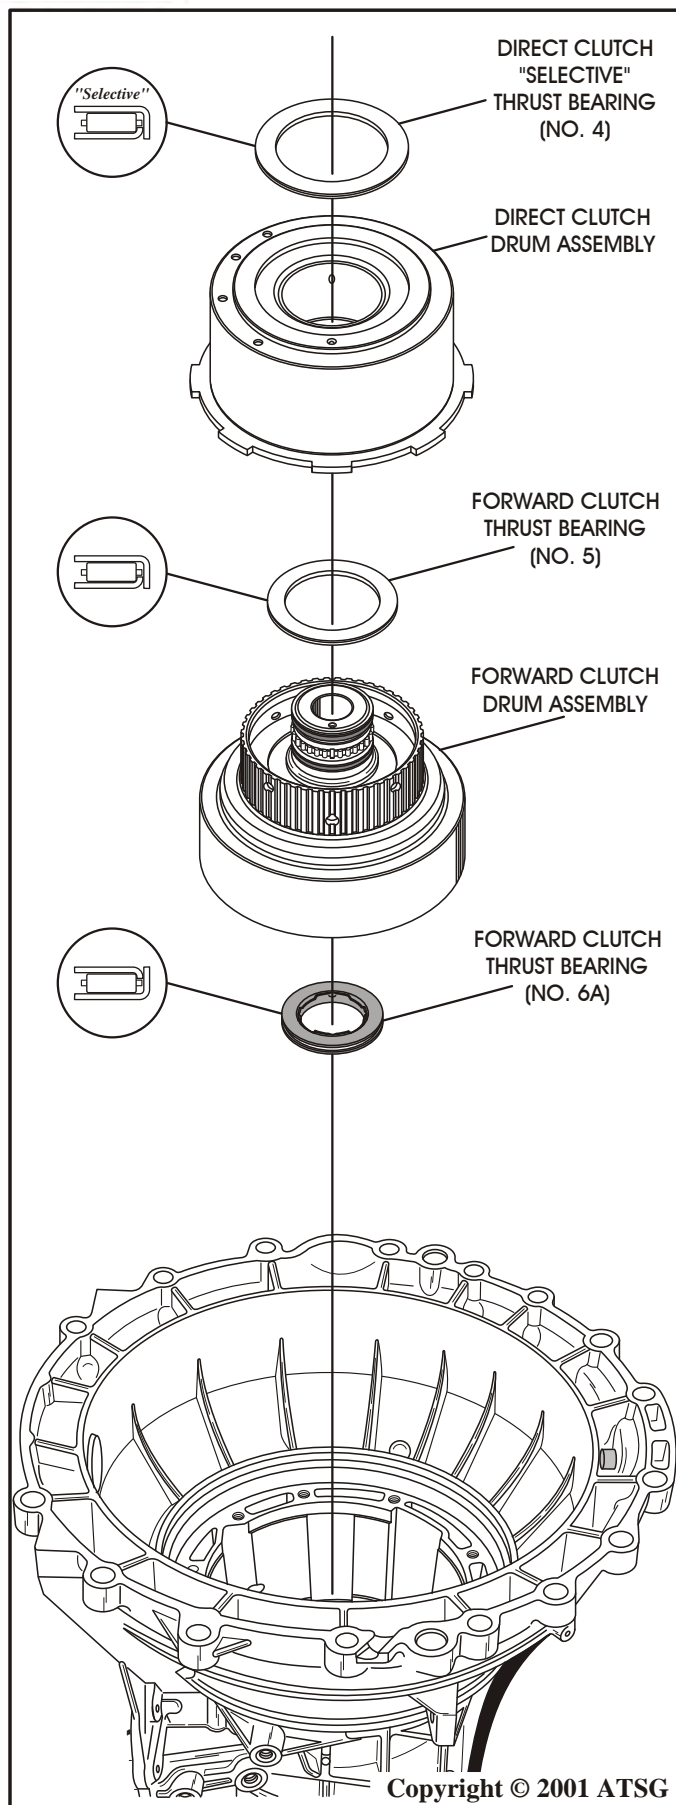

Figure 151
29. Install forward clutch thrust bearing (No 6A) onto the back side of pre-assembled forward clutch drum, in direction shown in Figure 151, and retain with a small amount of Trans-Jel®.
30. Install forward clutch thrust bearing (No 5) on front side of forward clutch drum, in direction shown in Figure 151, and retain with a small amount of Trans-Jel®.
31. Install forward clutch housing, with bearings, as an assembly, as shown in Figure 151.